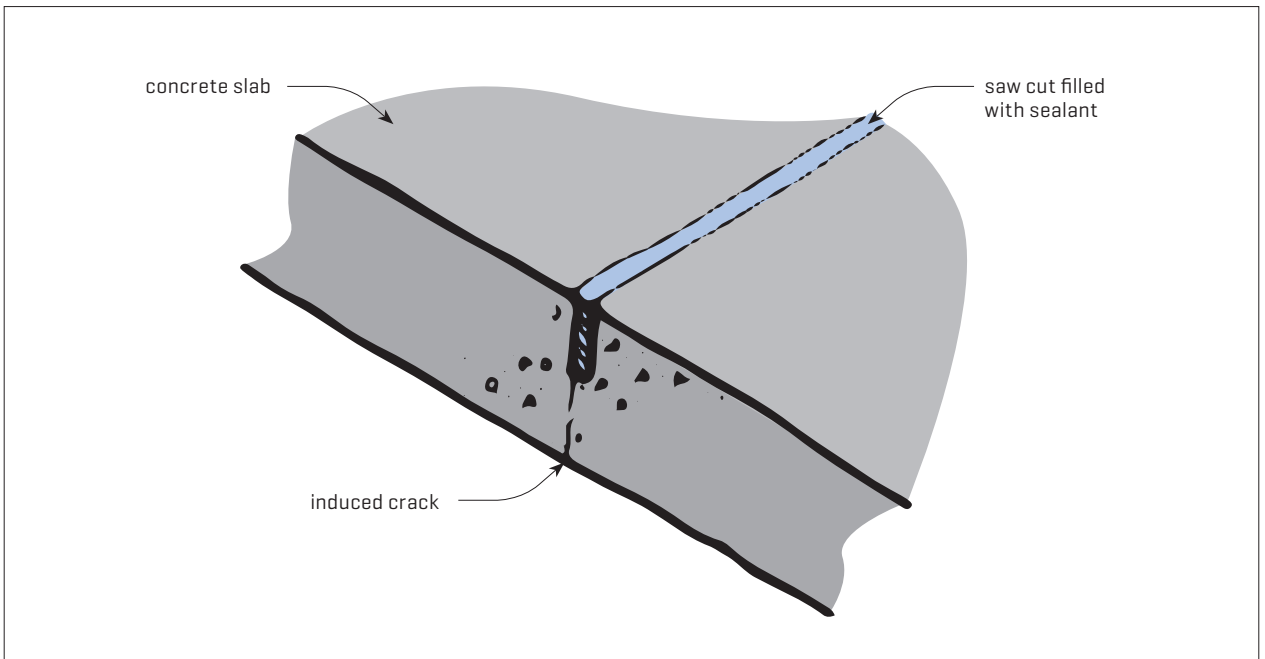

Figure 1. Shrinkage control joint.
4.0.2 Construction joints control the location of cracking by creating a weak point in the concrete along which cracking can occur. They are made by saw-cutting concrete at the joint location typically within 24 hours of the concrete being placed (where curing is slower saw cutting within 48 hours is acceptable), then filling the sawcut with sealant (Figure 1). The location of joints and the size of bays has a significant effect on movement in the topping and the type of cracking that may occur.